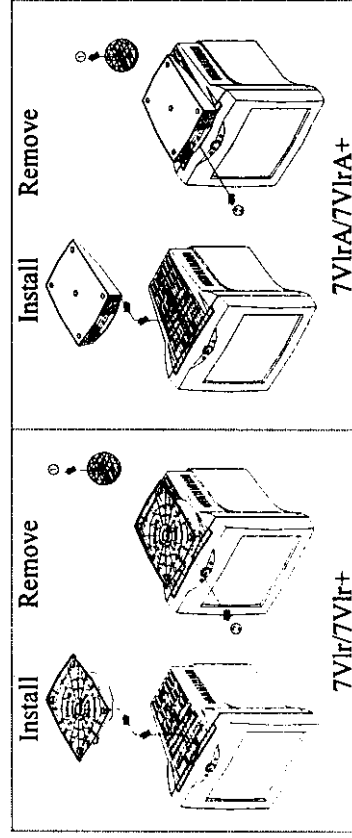

Figure 1 Installing and Removing the Swivel Base
- Carefully turn the monitor on its side or upside down. ( see Figure 1 )